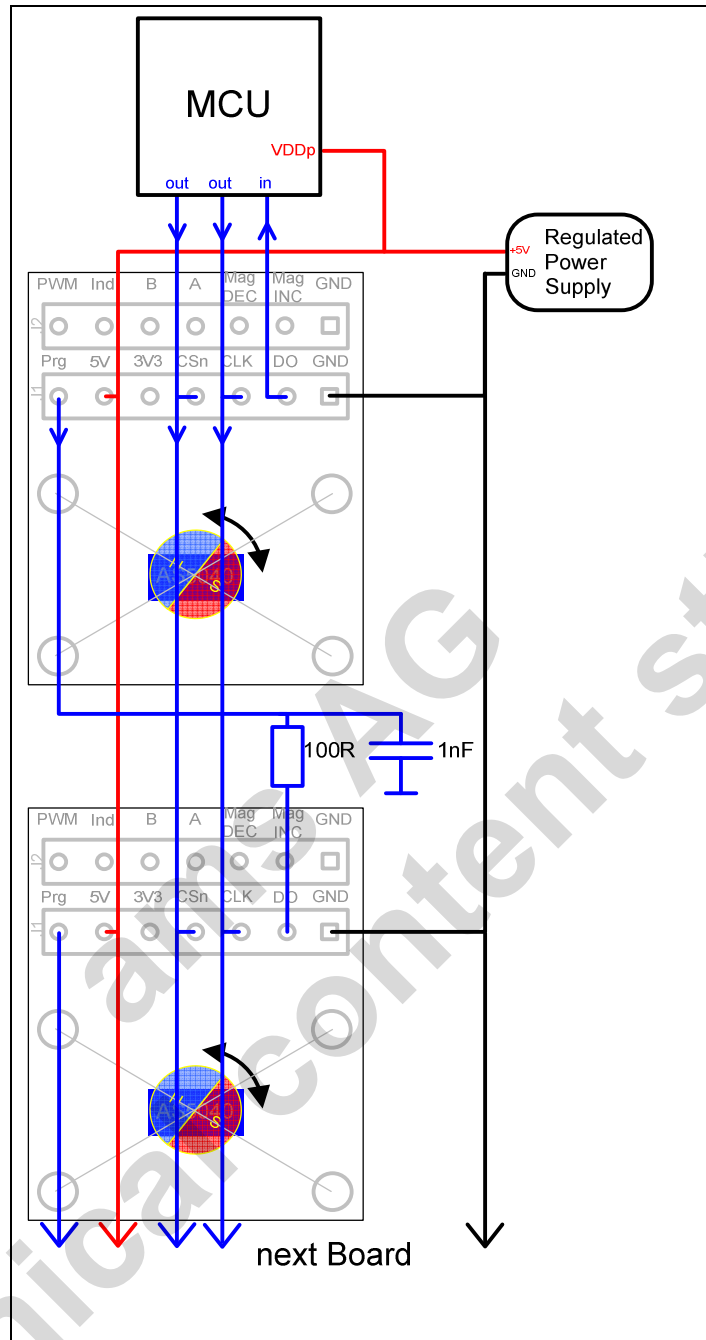
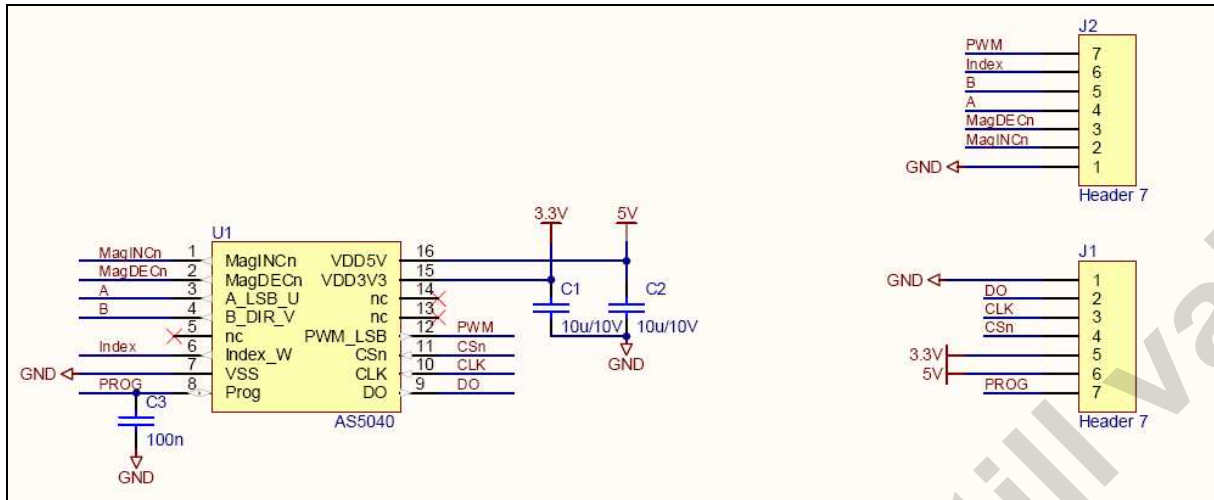

Figure 8: Using Daisy-Chain mode with the adapter board
Figure 10: AS5040-AB-2.0 adapterboard schematics
**In this mode capacitor C3 (refer to Fig.10) must be disconnected when using the 1nF capacitor shown in Fig.8. or directly replaced by this capacitor.**